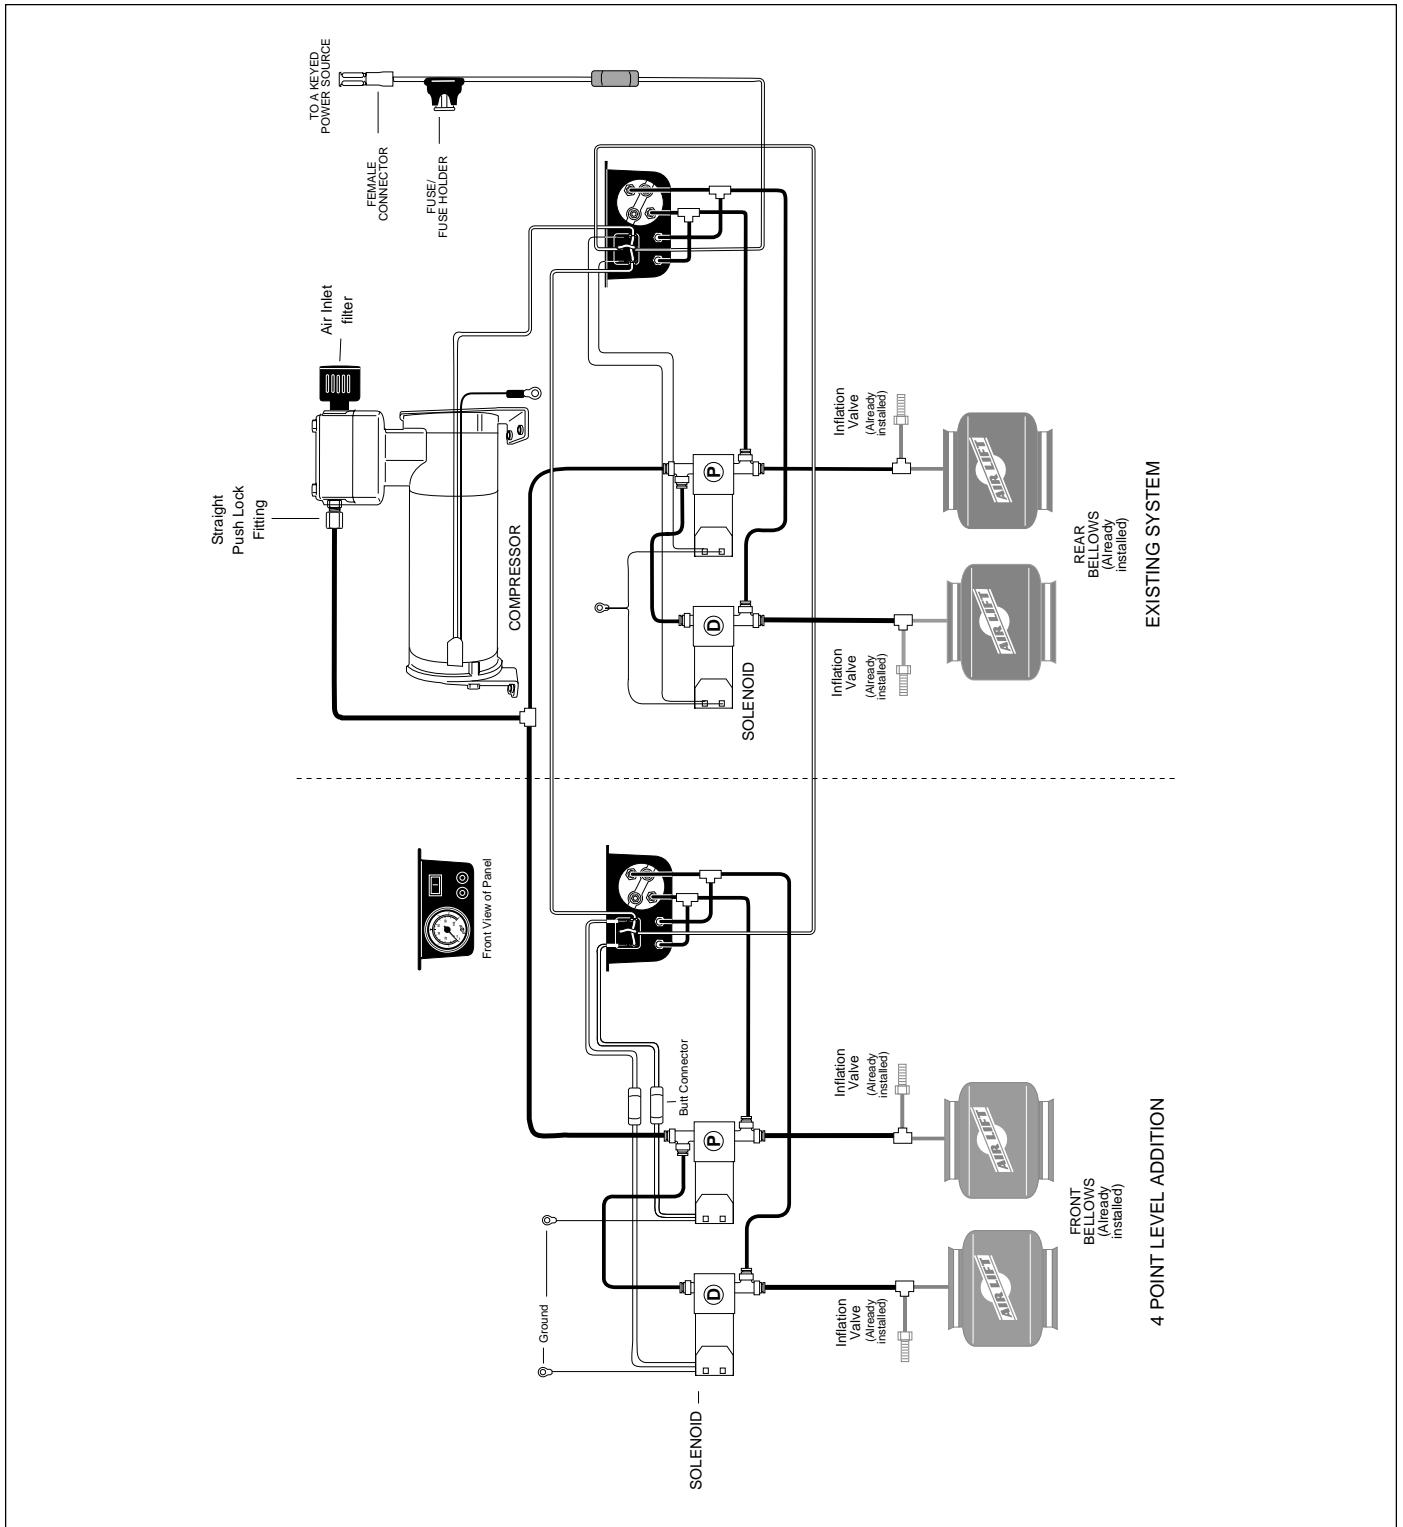

Figure 1
1. Select a convenient, sturdy mounting location for the gauge panel, usually next to the existing gauge panel (Figure 1).
6. Measure distance between left hand solenoid and control panel. Cut sufficient air line and attach one end into last leg of tee on left solenoid and route air line to left hand gauge and control panel (Figure 1 & 2).